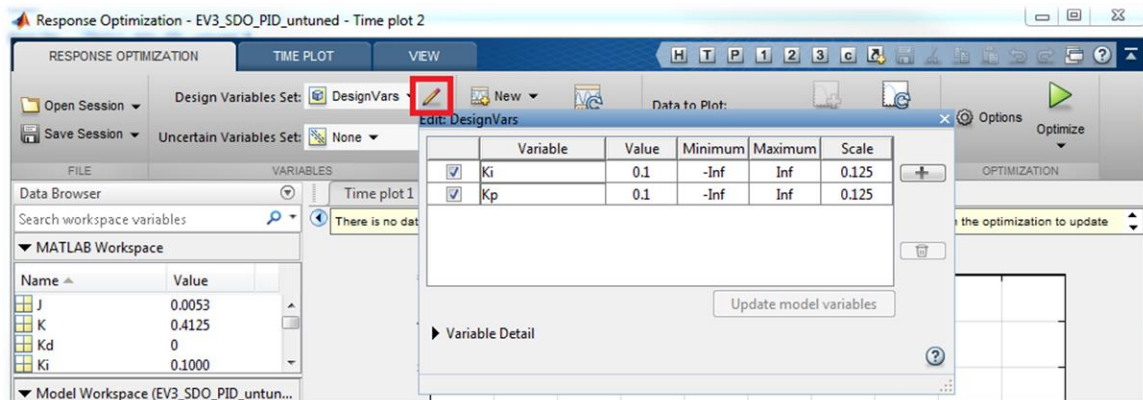

Figure 48 - PID values as design variables
3. Examine the current PI values which will act as the independent variables in the optimization. This can be viewed by first clicking on the **Response Optimization** tab. Click on the Pencil Icon to bring up the design variables menu. This is shown in Figure 48.